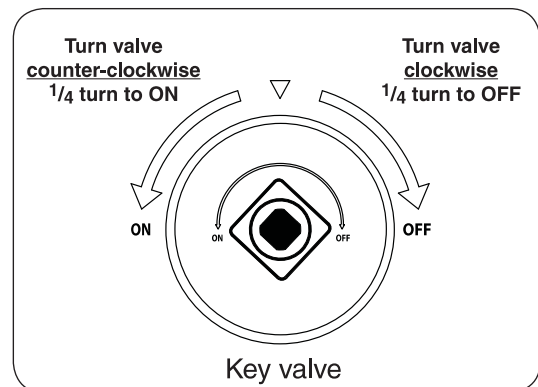

Fig. 23-2
- 4. **Once the match is burning and in position**, turn the key valve counter-clockwise a $\frac{1}{4}$ turn to the **ON** position (see Fig. 23-2). Your burner should light.
To extinguish your gas burner, turn the key valve clockwise a $\frac{1}{4}$ turn to the **OFF** position (see Fig. 23-2). Be sure the key valve is turned fully off to avoid any gas leakage.